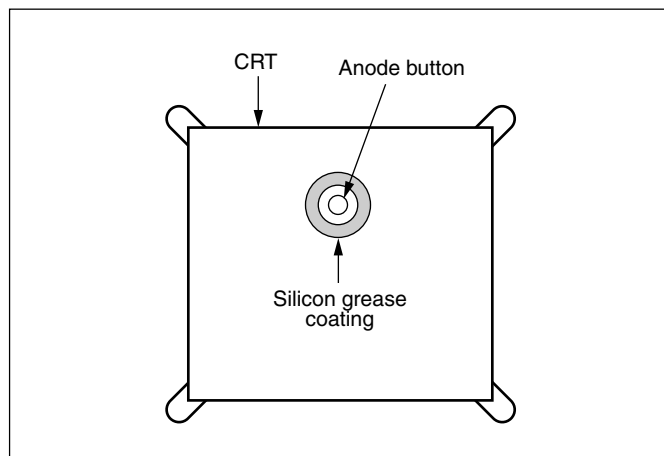

Fig. 5
- Subsequent to replacement of the CRT and HV transformer or repair of the anode cap, etc. by dismounting them, be sure to coat silicon grease for electrical insulation as shown in Fig. 5.
- Wipe around the anode button with clean and dry cloth. (Fig. 5)